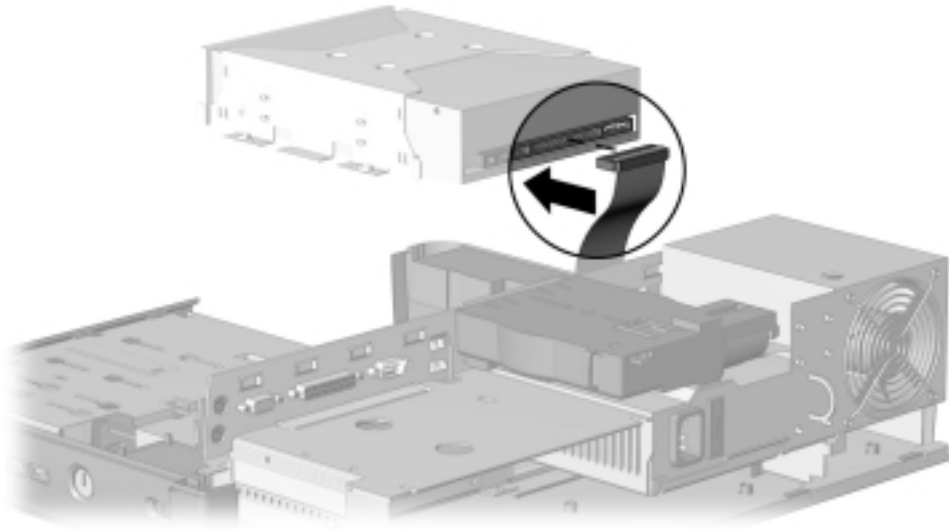

Figure 5-19. Connecting the Diskette Drive Cable
13. If a diskette drive is being installed, connect the diskette drive cable to the diskette drive connector (Figure 5-19).